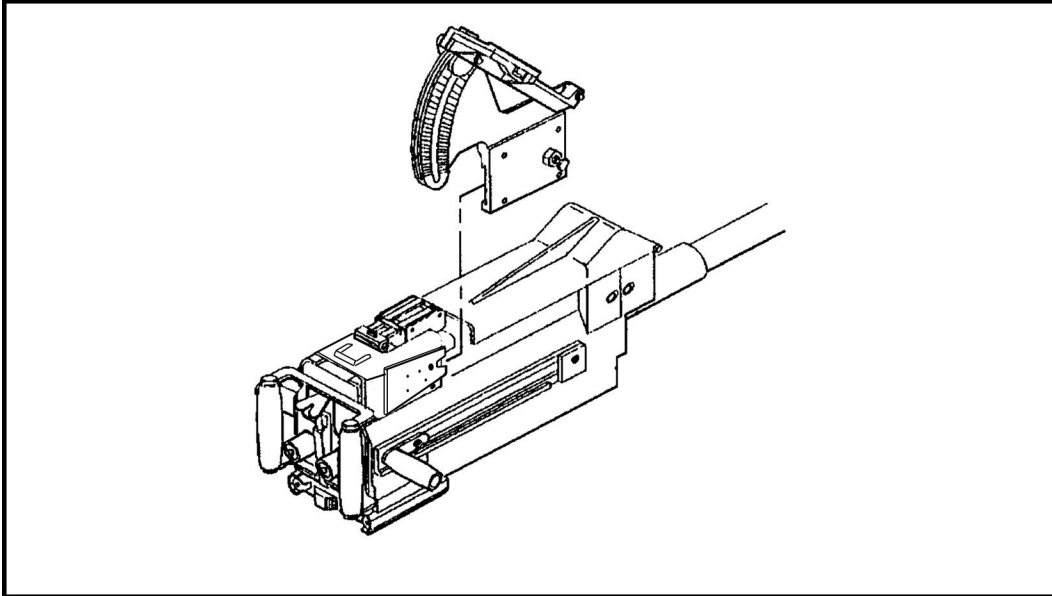

Figure G-13. Mounting the HWTS on MK 19.
(1) **Mounting Procedures.** Mounting the HWTS to the MK 19 is a two-step process (Figure G-13):